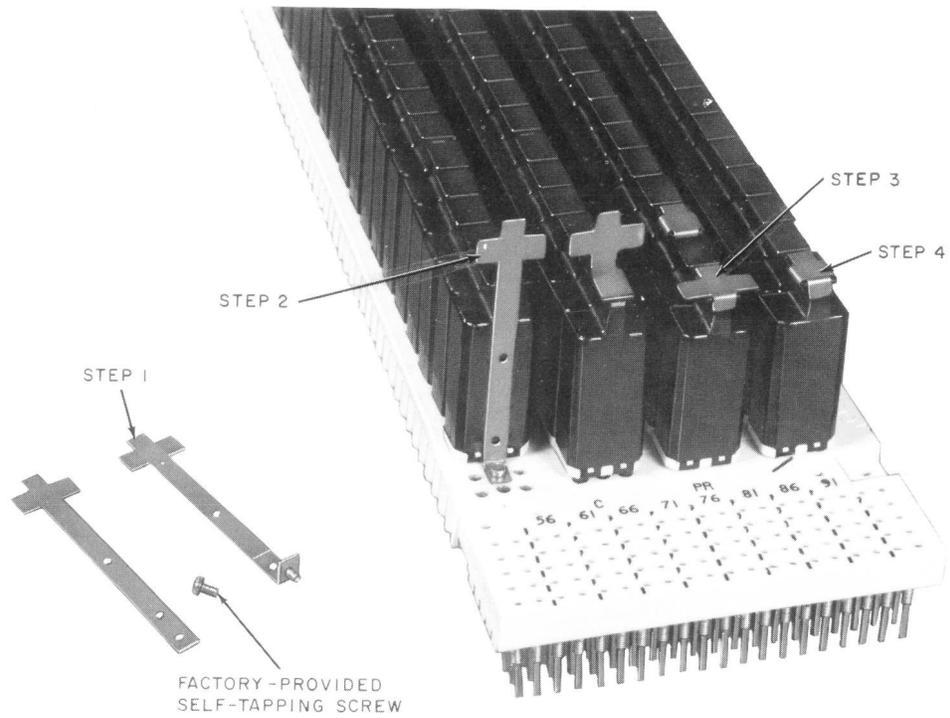

Fig. 4—20A Circuit Guard
8.02 The 20A circuit guard, Fig. 4 is a brass cross-shaped metal guard designed to prevent accidental removal of the protector units from the 302 Connector. It is used on protectors serving circuits requiring special service protection or special safeguarding measures. Its design permits use on 3A-, 4A-, or 5A-type protectors. When the 20A circuit guard is installed, use of the designation pin is discontinued for the affected circuit.